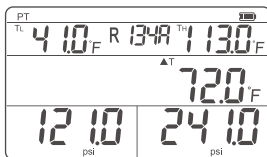

FIG.3 Diagram of Temperature Difference Sub Mode
- Short press the **MODE** button to enter the temperature difference sub mode, The interface[FIG.3] displays the measured pressure, temperature and temperature difference values at the high and low pressure sides.